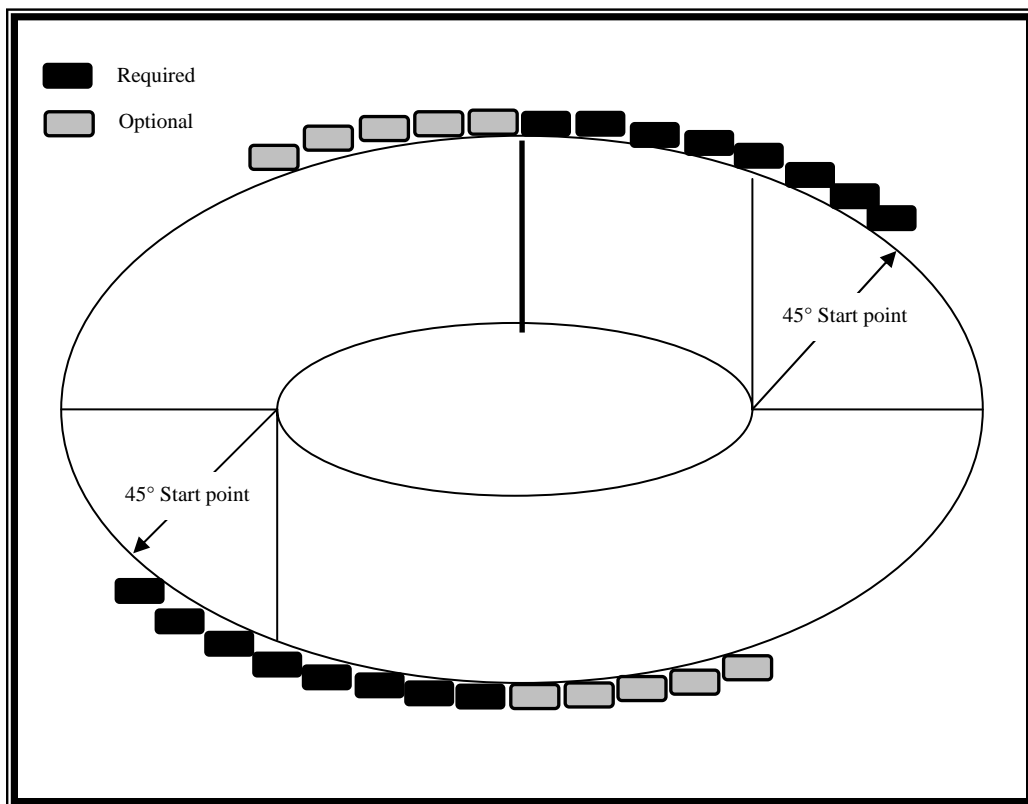

Figure 1. Soft-Wall Layout Diagram
- a. The corner anchor point shall start at approximately 45 degrees from the apex of the corner as shown in Figure 1.